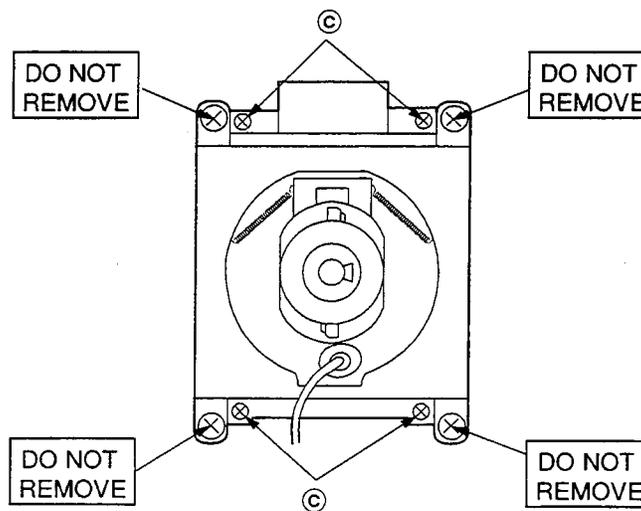

Fig. 6-2
14. Remove 4 screws (c) retaining the CRT. [Fig. 6-2]